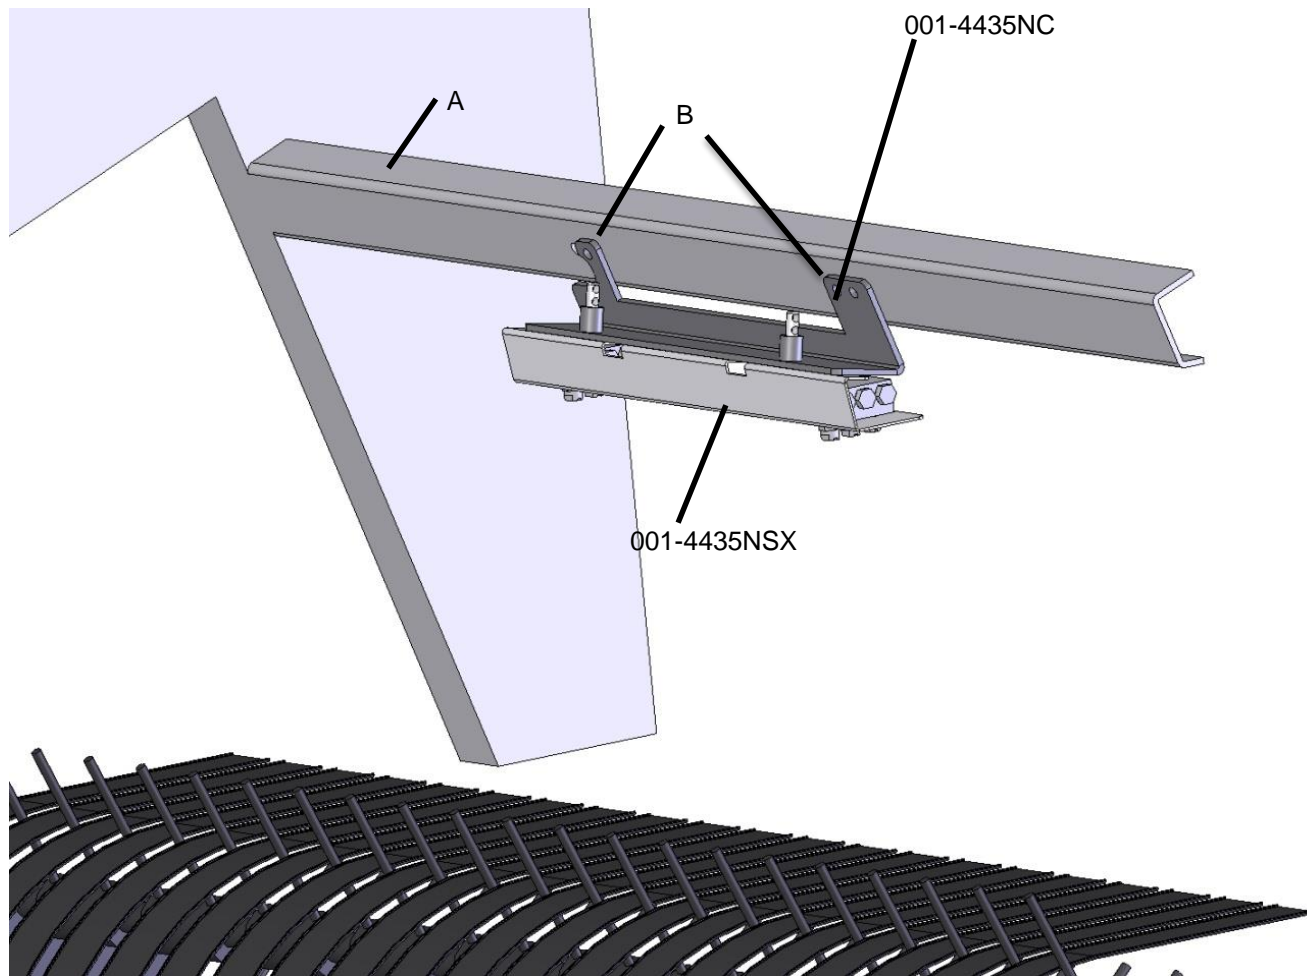

Figure 16
1. Locate the baler cross member directly above the rotor (figure 16 point A).
2. Locate the four pre-drilled holes on the cross member (figure 16 point B).